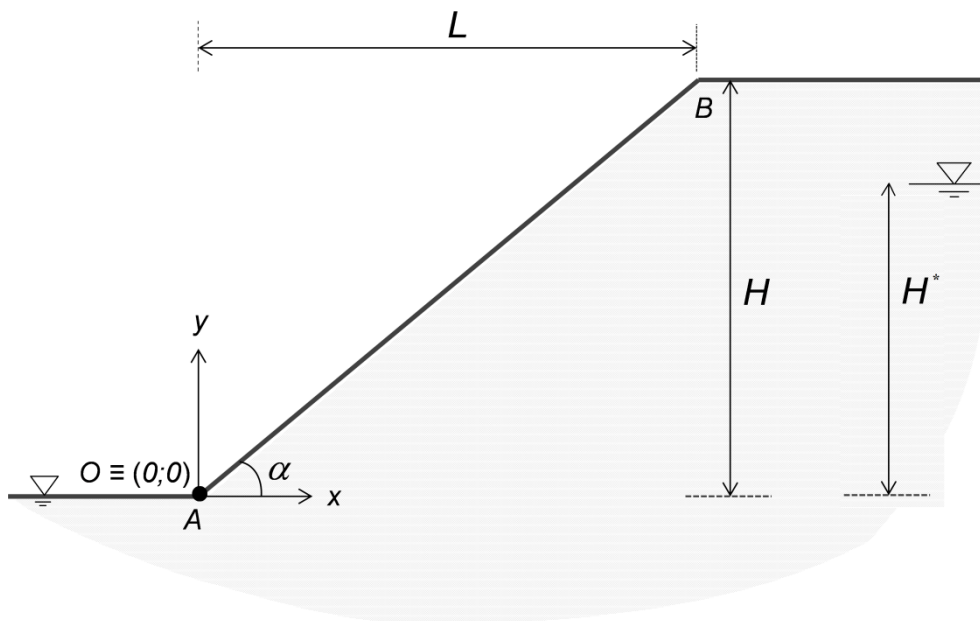
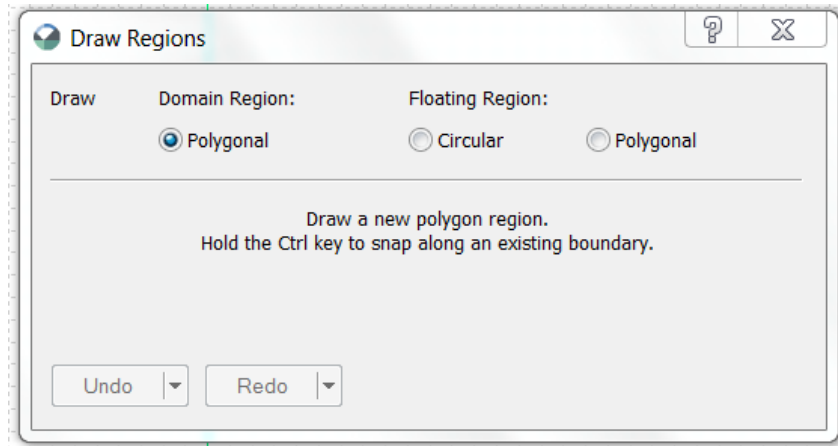

Figure 1: slope geometry.
Figure 5: *Draw regions* window.
The slope considered in this exercise is characterized by the same geometry and material properties considered in exercise 4a (see Figure 1 and Table 1). However, different from the previous exercise where the slope was considered to be submerged, the one analyzed in this exercise is characterized by the water table level depicted in Figure 1. Seepage is hence expected to occur.
Table 1: geometry and soil properties of the slope reported in Figure 1.
- I. Resolution of the hydraulic problem (GeoStudio SEEP/W). After drawing the slope and assigning the boundary condition of the hydraulic problem (see Figure 1), the seepage problem is solved and the distribution of water pressure in the slope of interest is thus obtained;
The command 'Draw → Regions → Polygonal' allows the geometry to be defined manually (Figure 5). Then, the 'Enter coordinate' cell in the bottom left can be used for this purpose. Starting from the origin *O*, referring to the given geometry (Figure 1), the following points must be added: (0;0), (13.9;8), (40;8), (40;-15), (-25;-15), (-25;0) (0;0). The last point needs to be connected to the origin.